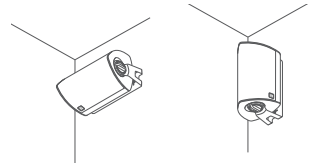

Figure 1
- The AW speakers should be positioned as close as possible to the listening area. The speakers may be oriented either horizontally or vertically (see Figure 1).